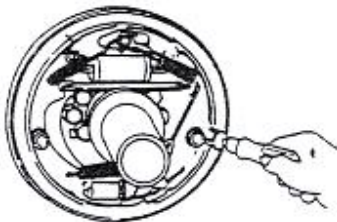

Figure 2-11
(1) Remove the support pin, regulating bar, regulating device and spring on the auxiliary brake shoe. See figure 2-11